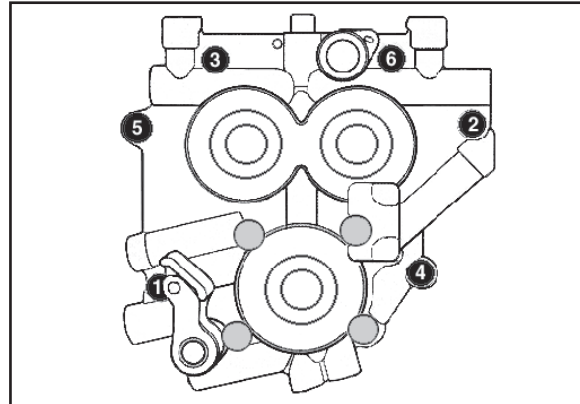

Figure 2
- L. Following sequence shown, alternately loosen and remove cam support plate bolts. **See Figure 2.**
- G. Loosely install support plate screws with a drop of Loctite® threadlock 242 or 243 (blue). Alternately tighten screws to 95 in-lbs. torque following sequence shown. See Figure 2 Page 3.
Support plate screws that pass through alignment dowels (See positions 1 & 2 in Figure 2) can be easily stripped when applying maximum 120 in-lbs. torque as recommended by Harley-Davidson®.